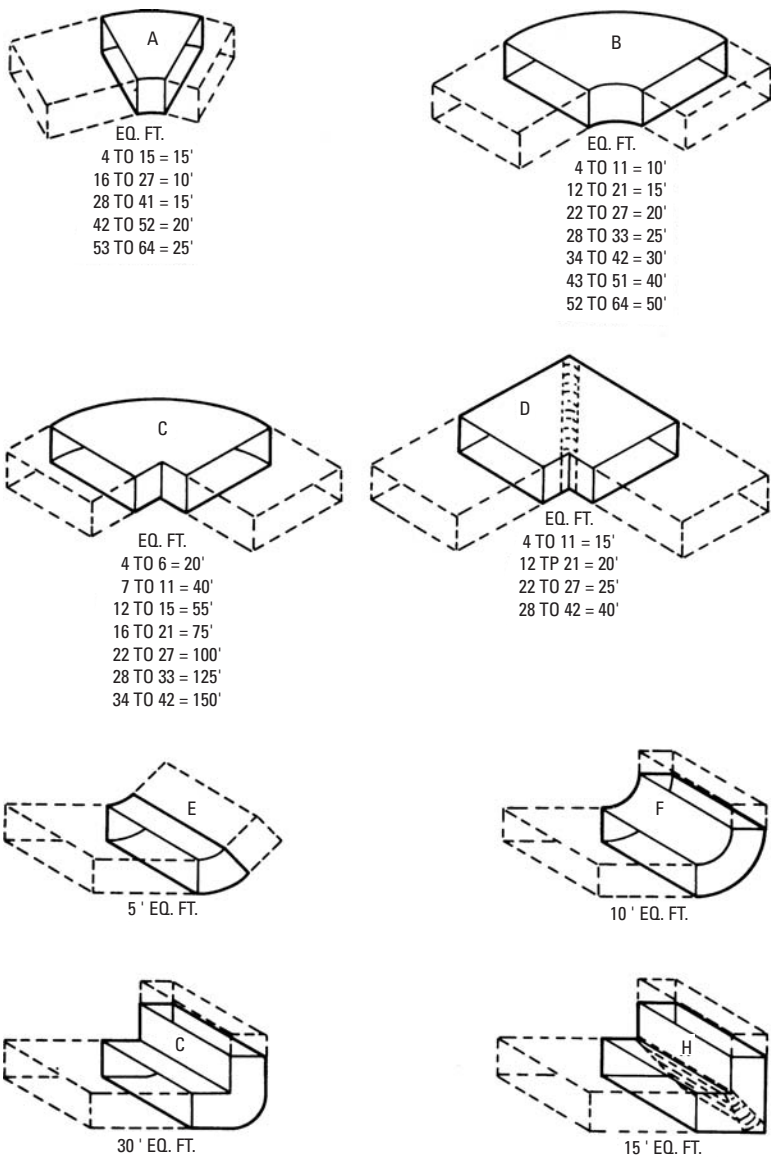

Figure 7-10 Angles and elbows for trunk ducts.
- Trunk duct angles and elbows (see Figure 7-10)